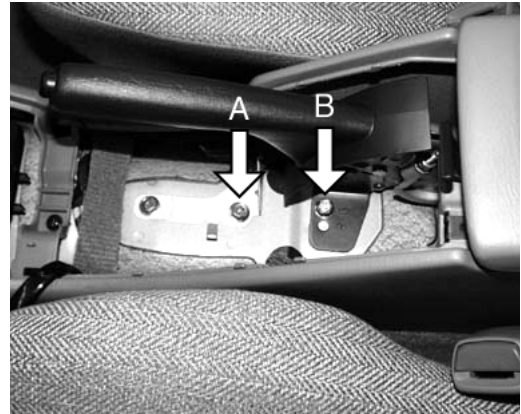

Figure 4
5. Remove and retain for reinstallation, the black M8 bolt indicated by the arrow “A” in Figure 4. Loosen the M8 bolt indicated by the arrow “B.”